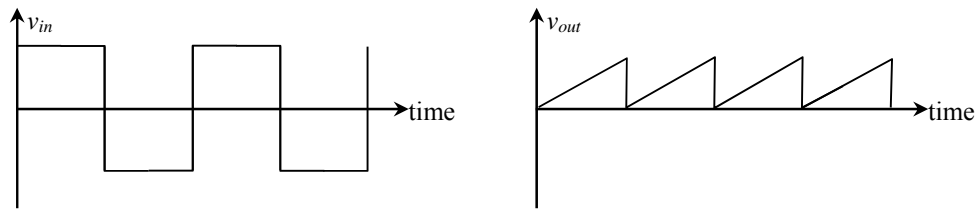

Fig. Q6c
- (c) Show an opamp circuit that can produce a saw tooth wave from a square wave input with 50% duty cycle as shown in Fig. Q6c.